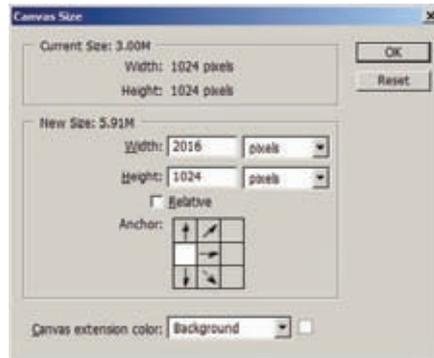

Figure 9.2
3. Change the Width and Height unit measurement from inches to pixels. Change the Width value to 2016. Change the Anchor point to the left-middle box (Figure 9.2).